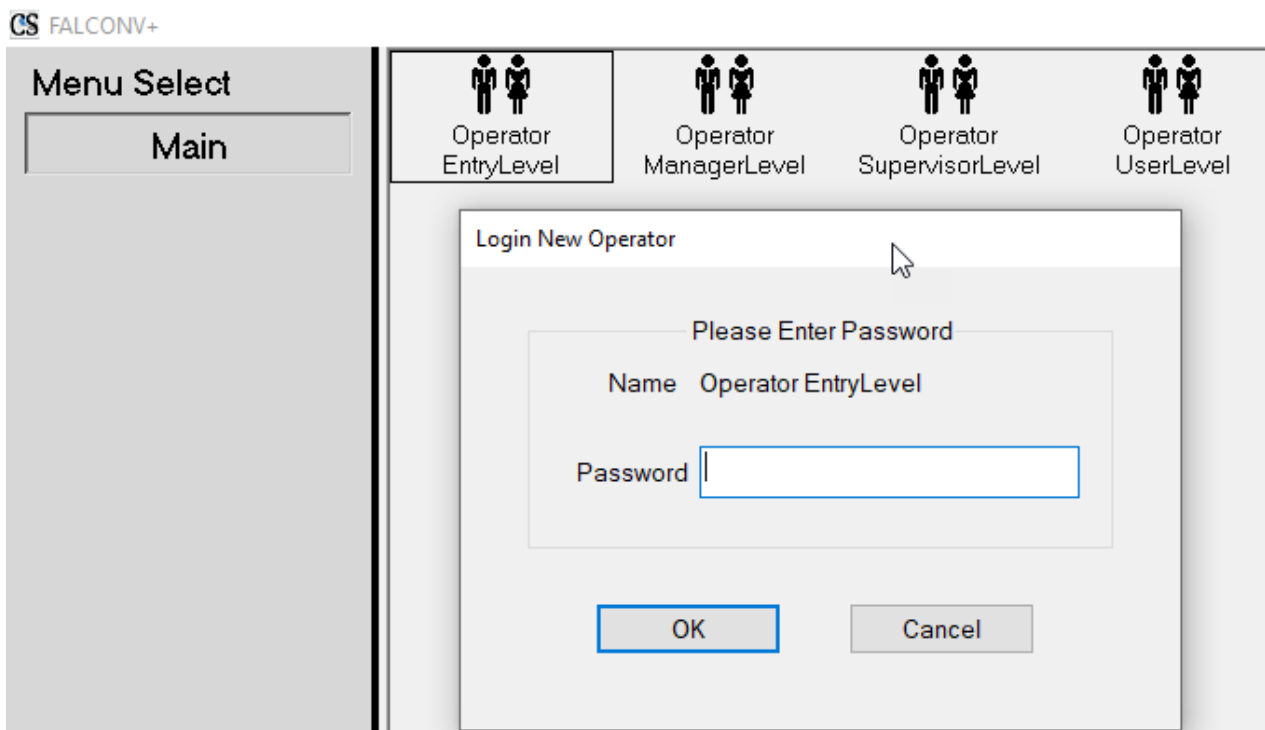

Figure 3-3: Enter password
2. Enter your password (Figure 3-3).